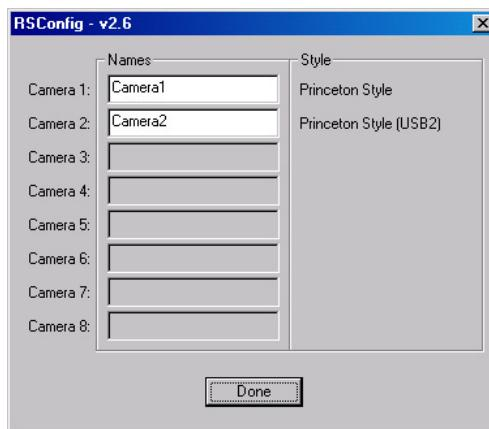

Figure 202. RSConfig dialog box: Two Camera Styles
4. Run RSConfig.exe (accessible from the **Windows|Start|Programs|Roper Scientific** menu). If the USB 2.0 camera is listed as Camera 2 (Princeton Style (USB2) in Figure 202), you will have to edit the PVCAM.INI file.